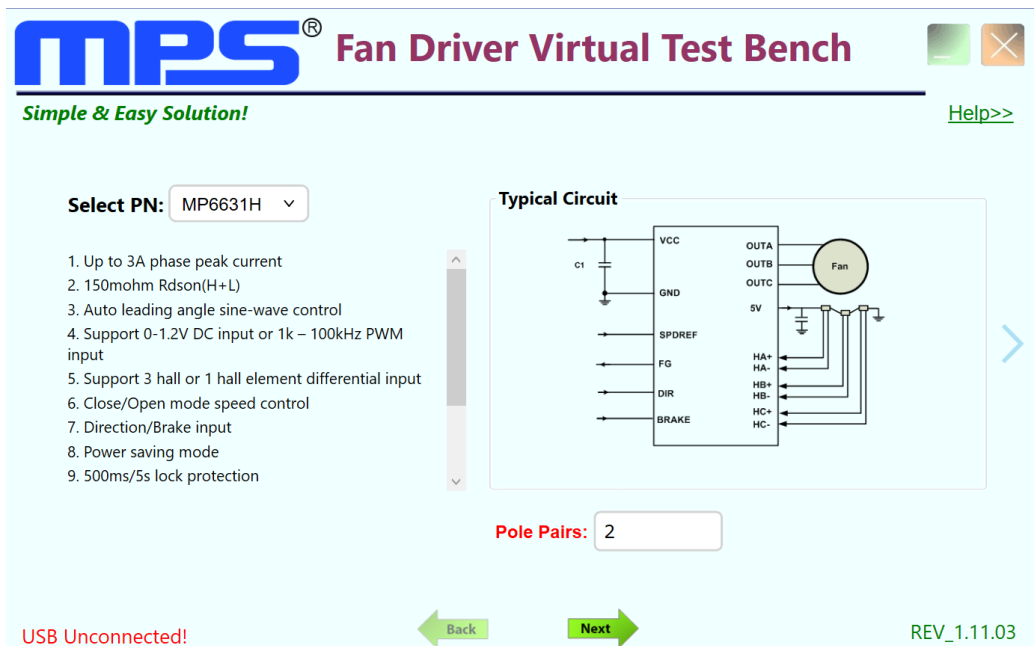

Figure 7: Fan Driver Virtual Test Bench
1. Double click “MP6631H.exe” to start the GUI. The first page of GUI should show the features and typical application circuit (see Figure 7).